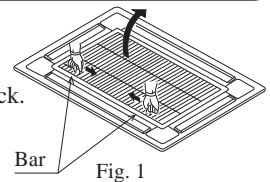

Fig. 1
(1) Remove air inlet grill from ornament panel *
- ① Push in the bar in inlet grill and lift it up. (Refer to Fig. 1)